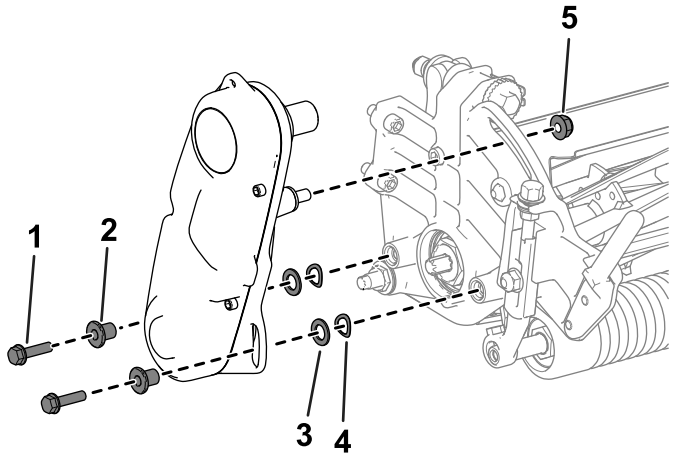

Figure 5
1. Remove the hardware that secures the reel-drive assembly to the side plate (Figure 5).
2. Remove the reel-drive assembly, flat washers, spring washers, and spacers from the side plate (Figure 5).